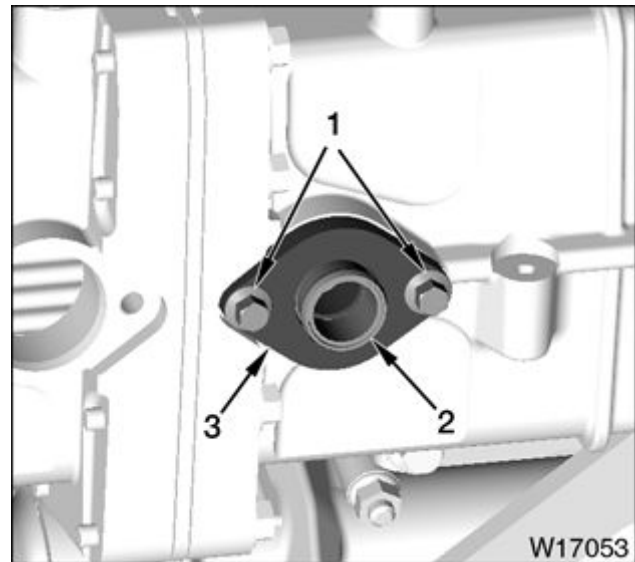

Figure 360 Coolant tube adapter
5. Install a new O-ring (2-225) in groove (Figure 360) on EGR coolant return tube assembly.